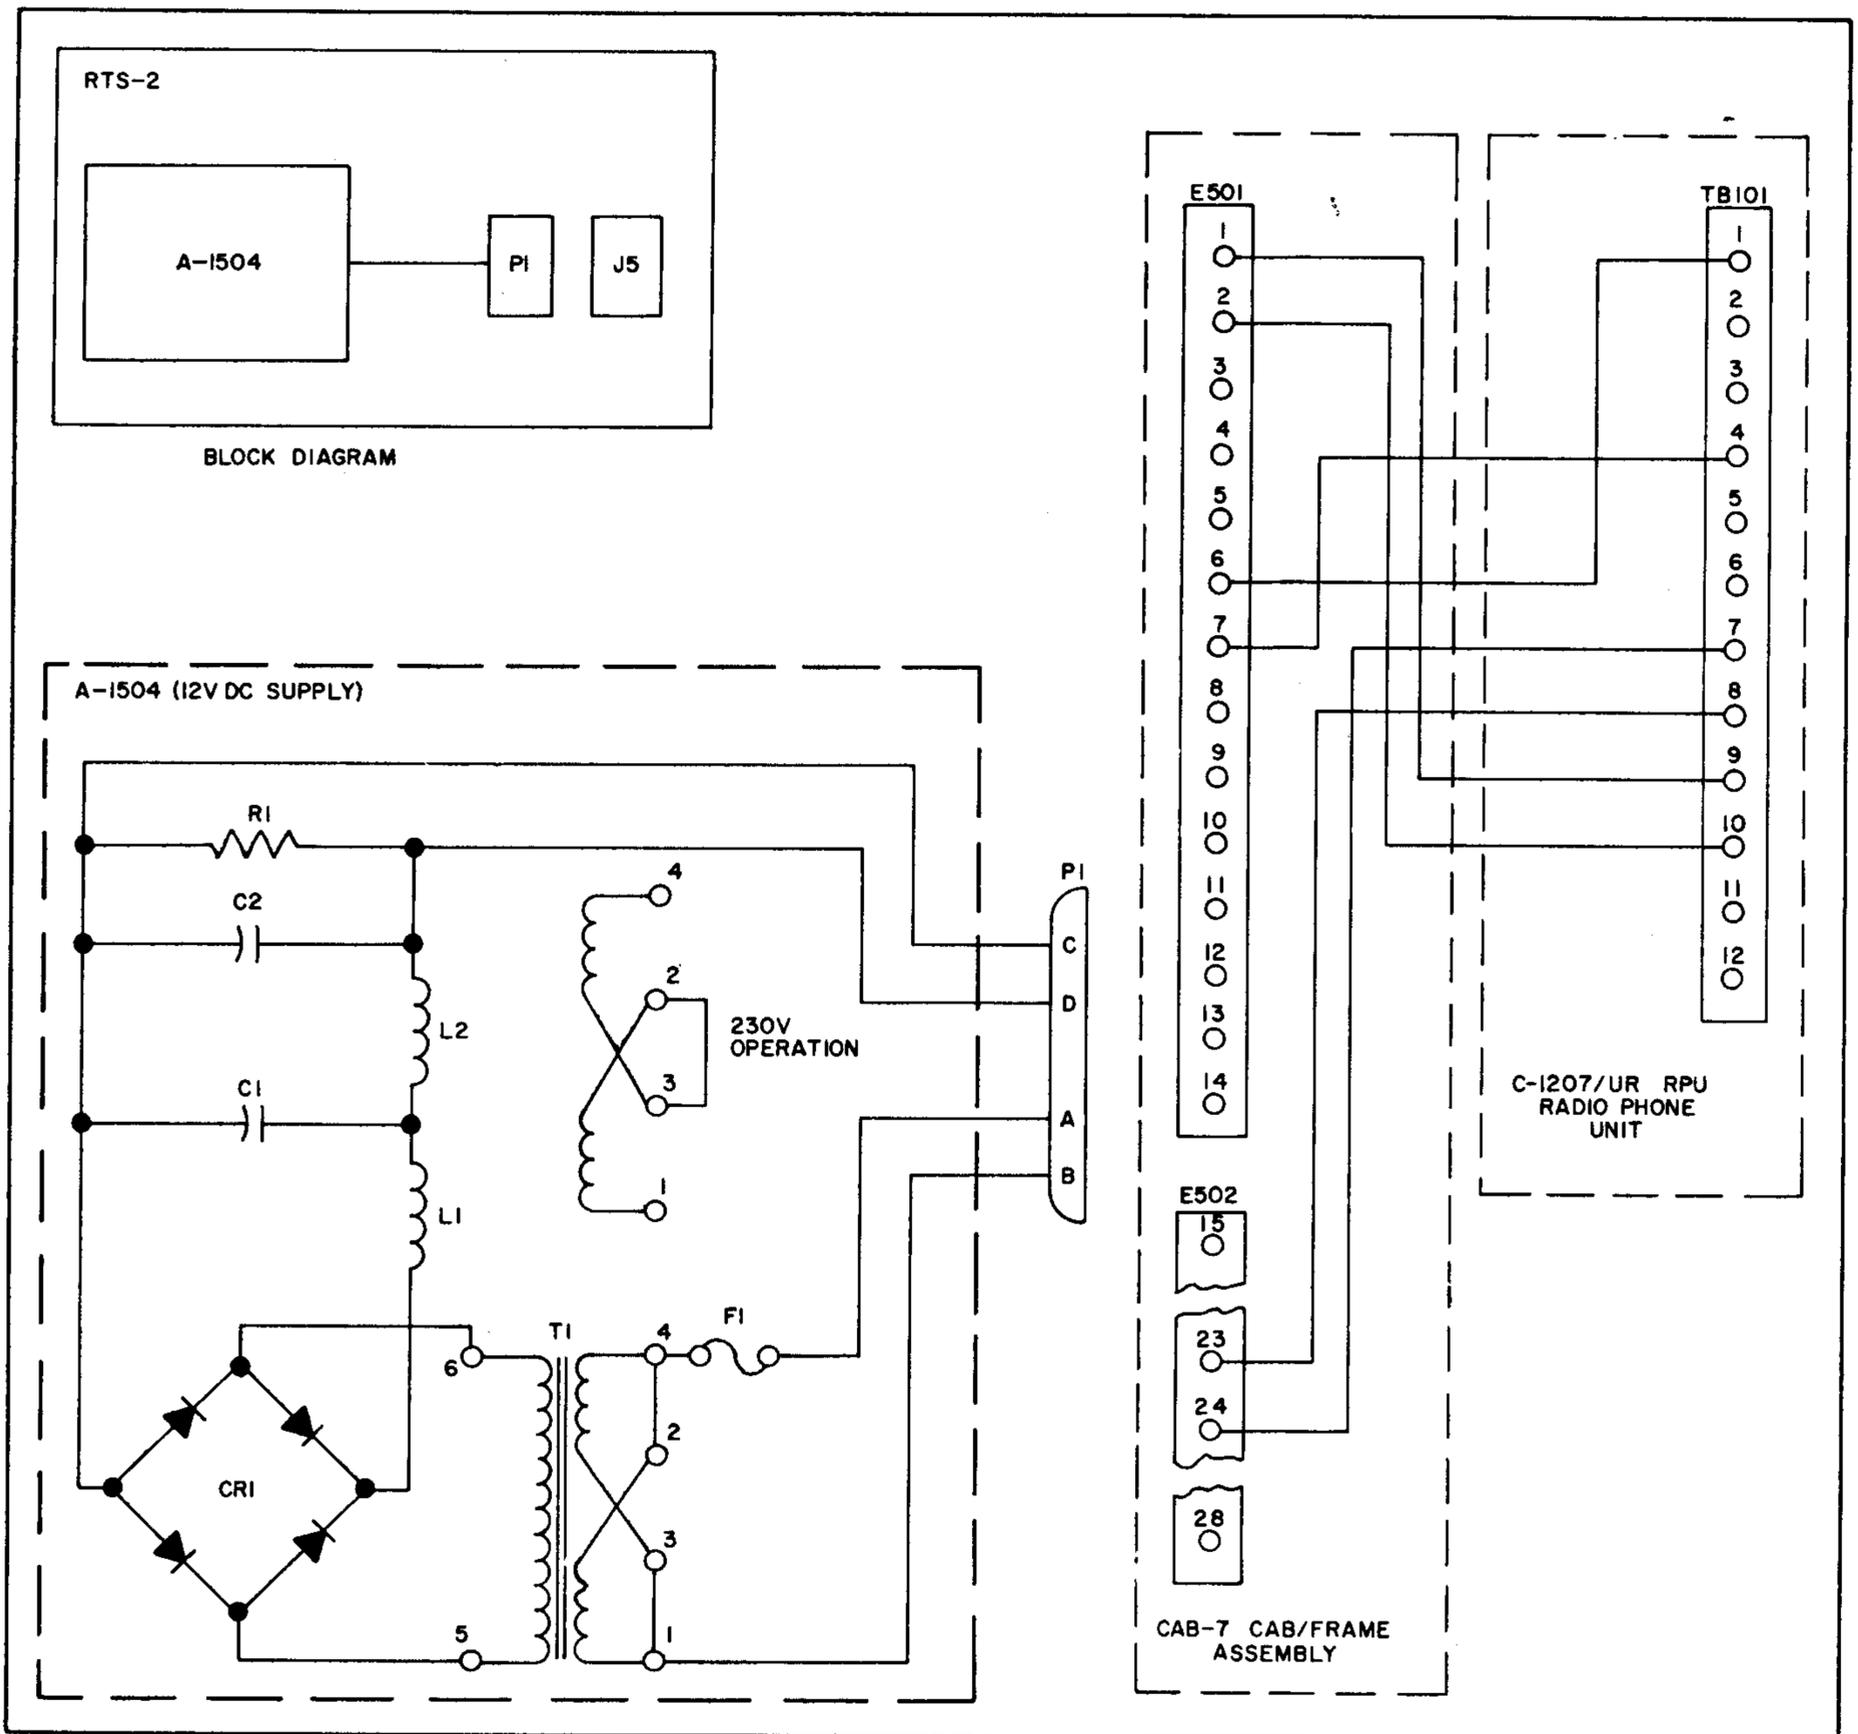

Figure 2-7. Radiophone Unit C-1207/UR, Interconnections to Transmitter
b. If the remote Radiophone Unit C-1207/UR is to be used an auxiliary 12-volt power supply Model A-1504 must be mounted in the Panel Chassis Assembly Model RTS-2. The output cable of the power supply connects to J5 on the RTS-2 chassis. Wiring connections between the radio transmitter and the radiophone unit are shown in figure 2-7.